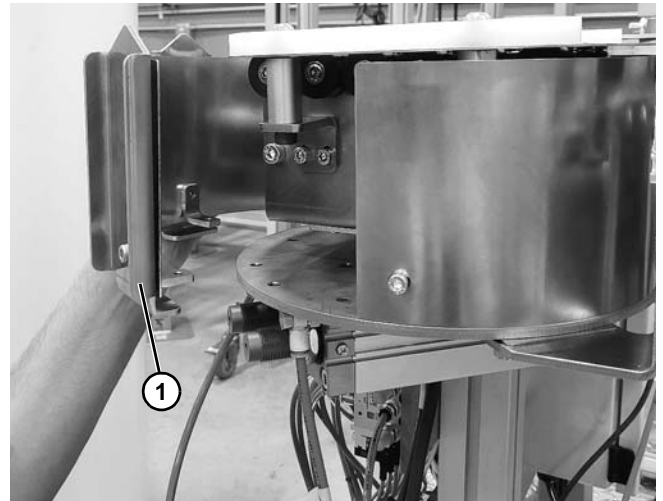

Figure 133
3. Remove side guard (Figure 133, item 1).